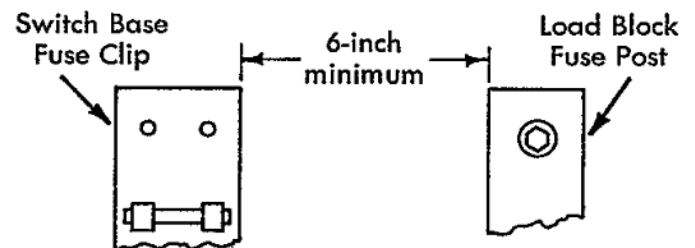

Fig. 3
2. Position new load block over holes marked "600A J". Use existing screws and washers to fasten new block to box. There must be a 6-inch minimum space between switch base fuse clip and load block fuse post Figure 3.